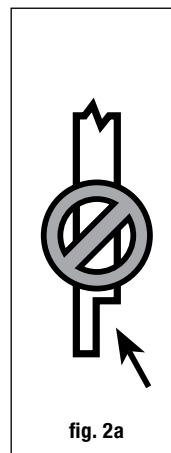

fig. 2a
Step 2: Install rail posts prior to installing deck boards. Cedar or pressure-treated pine 4x4 railing posts provide the structural strength for the railing. The length of each post is determined by the total of the joist width (7-1/4") + decking thickness (1") + railing height (36" or 42") + spacing for post cap (1-1/4") = 45-1/2" or 51-1/2". **Important:** Do not notch the 4x4 railing posts. Notching will reduce the strength of the post and could result in railing collapse or failure (fig. 2a).